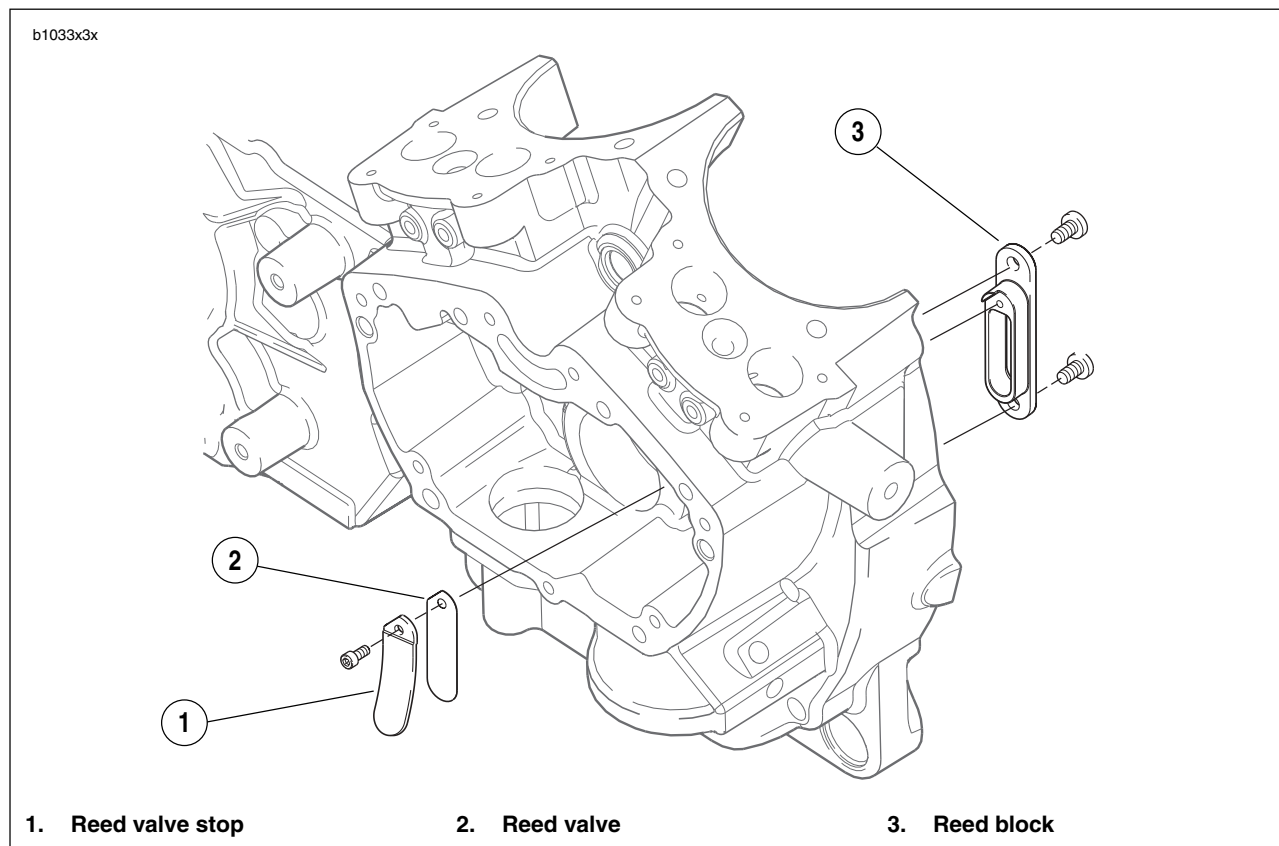
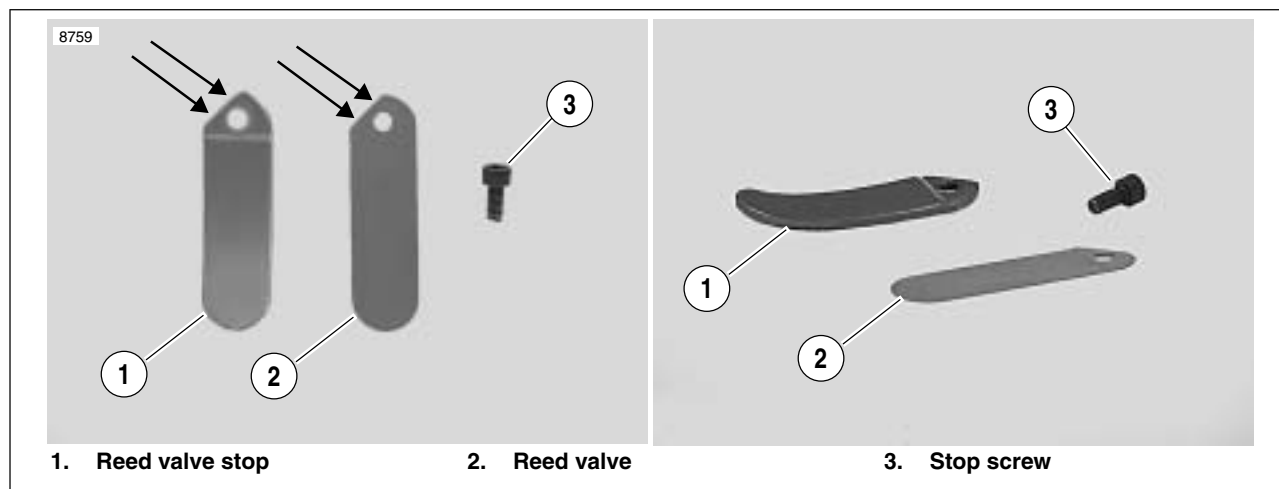

Figure 3-116. Reed Valve Assembly
Figure 3-117. Reed Valve Stop and Reed Valve
See Figure 3-117. Whenever the gearcase cover is removed, the reed valve should always be inspected for cracks, chips and breakage. The reed valve (2) is what moves out with the downstroke and in with the upstroke of the pistons. The reed valve stop (1) limits the movement the reed valve (2). See 3.11 CRANKCASE BREATHING SYSTEM.
See Figure 3-117. When replacing the reed valve it is extremely important to ensure that both edges of the reed valve stop (1) and the reed valve (2) are properly aligned to prevent premature failure of the reed valve. When replacing the reed valve it is not necessary to replace the reed block. See Figure 3-116.